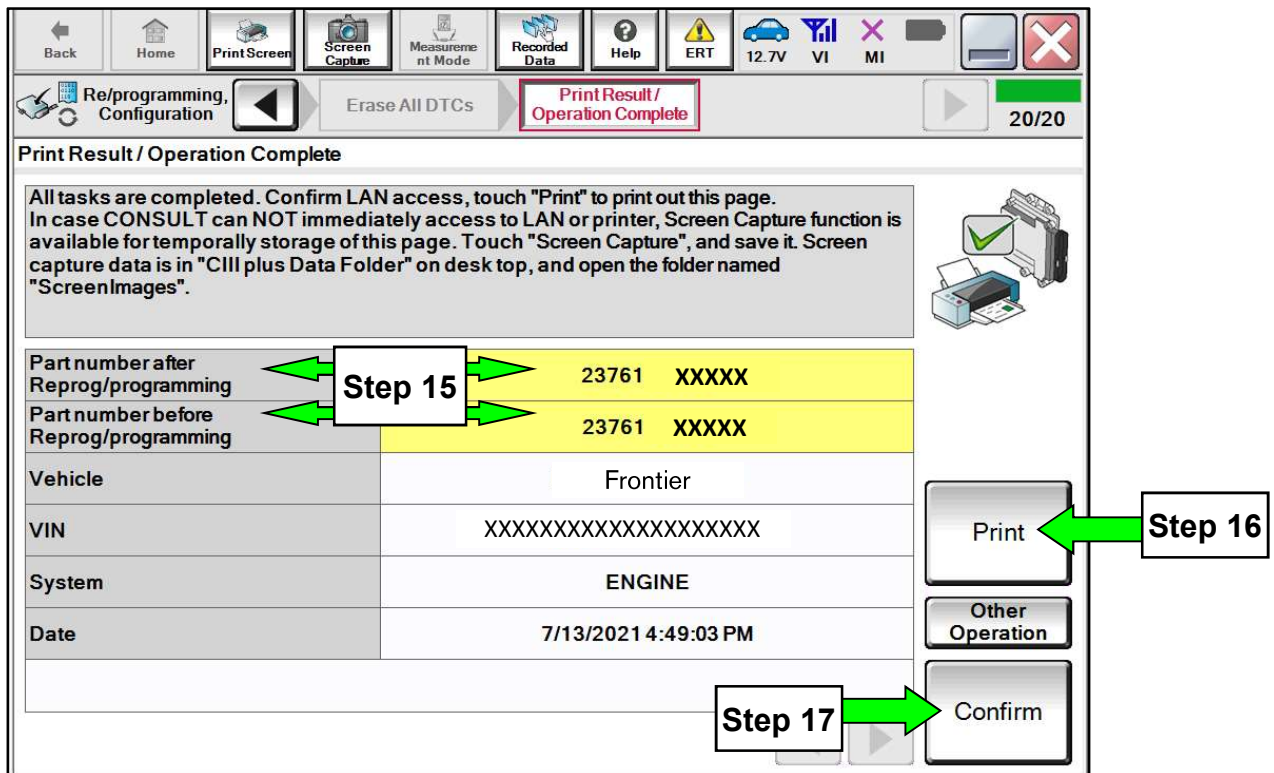

Figure 6
14. When the entire reprogramming process is complete, the screen Figure 6 will display.
16. Print a copy of this screen (Figure 6) and attach it to the repair order for documentation.